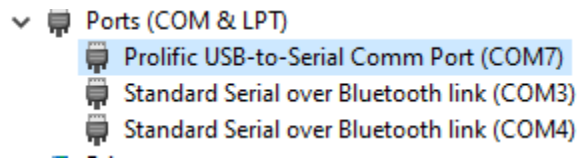

Figure 20: Prolific USB COM7 Port in Device Manager
12. The Device which will transmit and received data is as follows: This is shown in the Device Manager as shown in Figure 20.